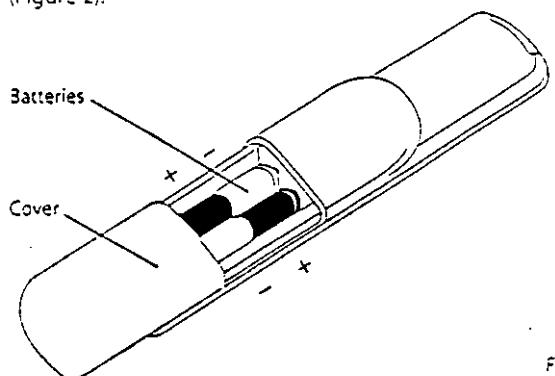

Figure 2
- 2** Insert the two AA batteries into the back of the remote control (Figure 2).